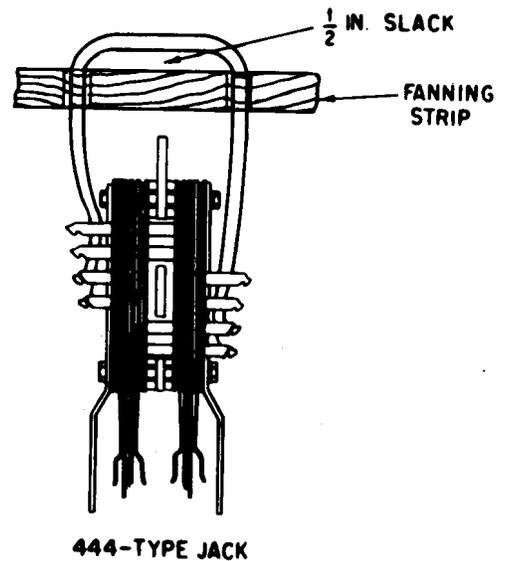

Fig. 9—Class NP Conductors—Cable Facilities Terminated on 444-Jacks Requiring Straps on Jack Contacts
6.17 Cable facilities, terminated on 444-type jacks and used for circuits which require that the jack contacts be strapped out, should be strapped as shown in Fig. 9. Cross-connect wire should be used, leaving approximately 1/2 inch slack.